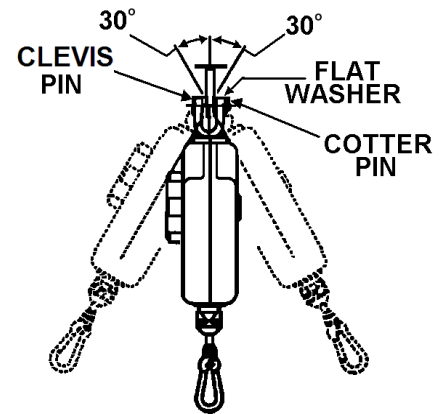

FIG. 02
- Sideways more than 30° or exceed free play between support and swivel fork – See **FIG. 02**